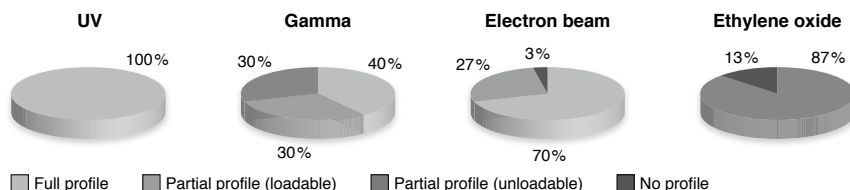

Figure 1: According to Shaw *et al.*, 2008, Comparison of the effects of sterilization techniques on subsequent DNA profiling. Int J Legal Med 122: 29-33.
NucleoSpin® gDNA Clean-up XS is certified as forensic quality product. Consumables used in forensics need to be treated carefully to prevent DNA contamination. MACHEREY-NAGEL therefore has a stringently controlled production process to avoid DNA contamination of consumables. Further, MACHEREY-NAGEL uses ethylene oxide (EO) treatment to remove amplifiable DNA, which might still be introduced during the manufacturing process. MACHEREY-NAGEL products carrying the forensic quality seal, contain plastic materials that are EO treated. This means, DNA of any kind, which might still be introduced into plastic consumables during the production process, is inactivated by means of the treatment with ethylene oxide, in order to prevent the generation of accidental human profile by PCR amplification. Ethylene oxide treatment has been shown to be the method of choice to prevent DNA profiles due to DNA contamination (Shaw *et al.* 2008; Figure 1).